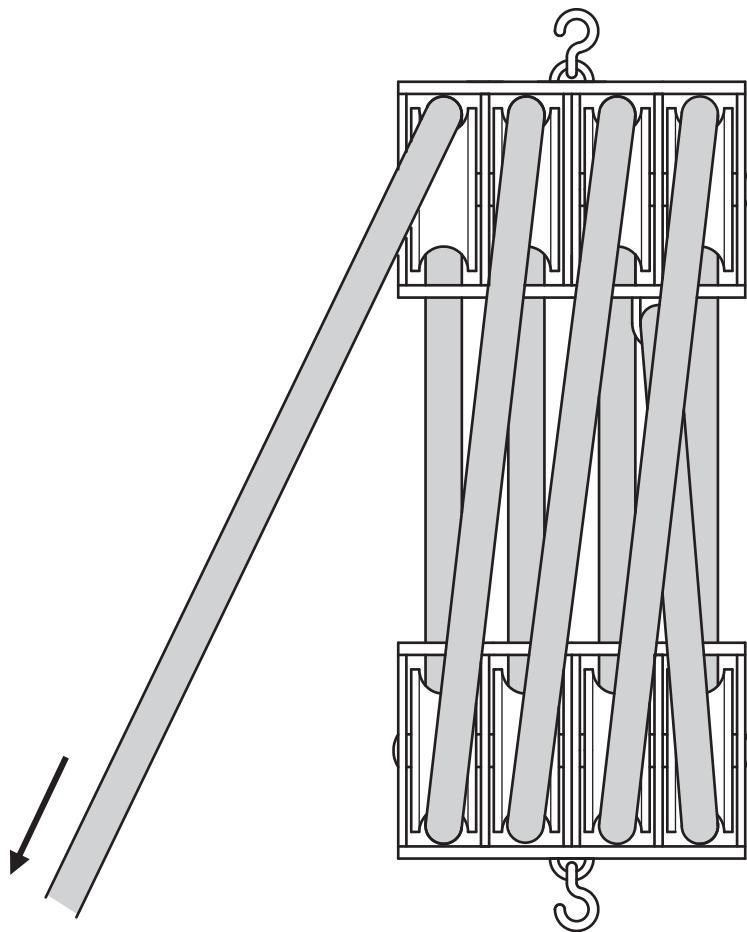

Fig. 11.2
- (d) Fig. 11.2 shows a hoist that uses a compound pulley system to lift heavy loads.